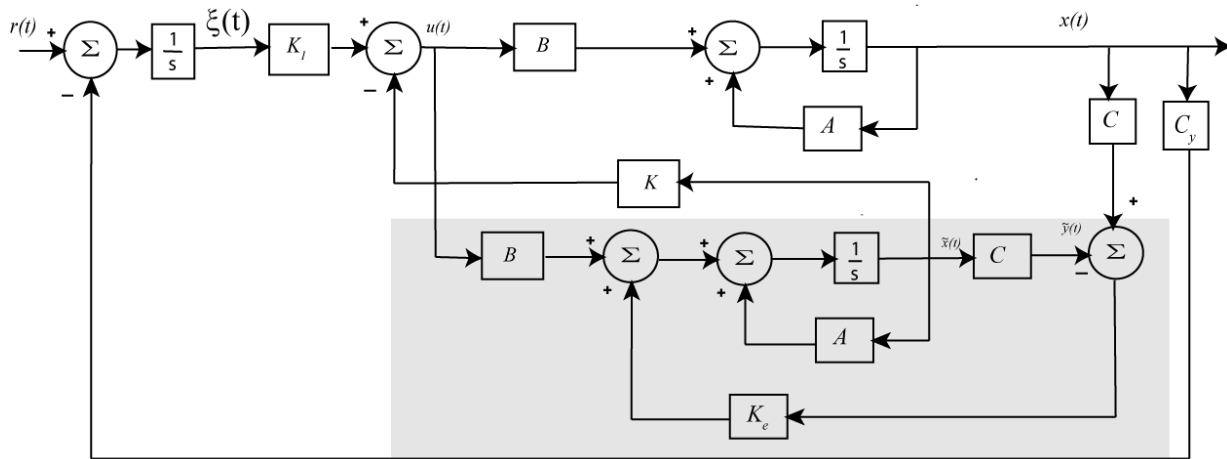

Figure 16: Full order observer state variable feedback structure with integral control.
2. Copy your program `sv1_observer_driver.m` to a new file `sv1_observer_int_driver.m`. Then copy the Simulink file `sv1_observer.mdl` to `sv1_observer_int.mdl`. Modify these new files to implement state variable feedback with an observer using integral control. The basic control scheme is shown below in Figure 16. Note that the prefilter is not needed in order to get zero steady state error anymore.